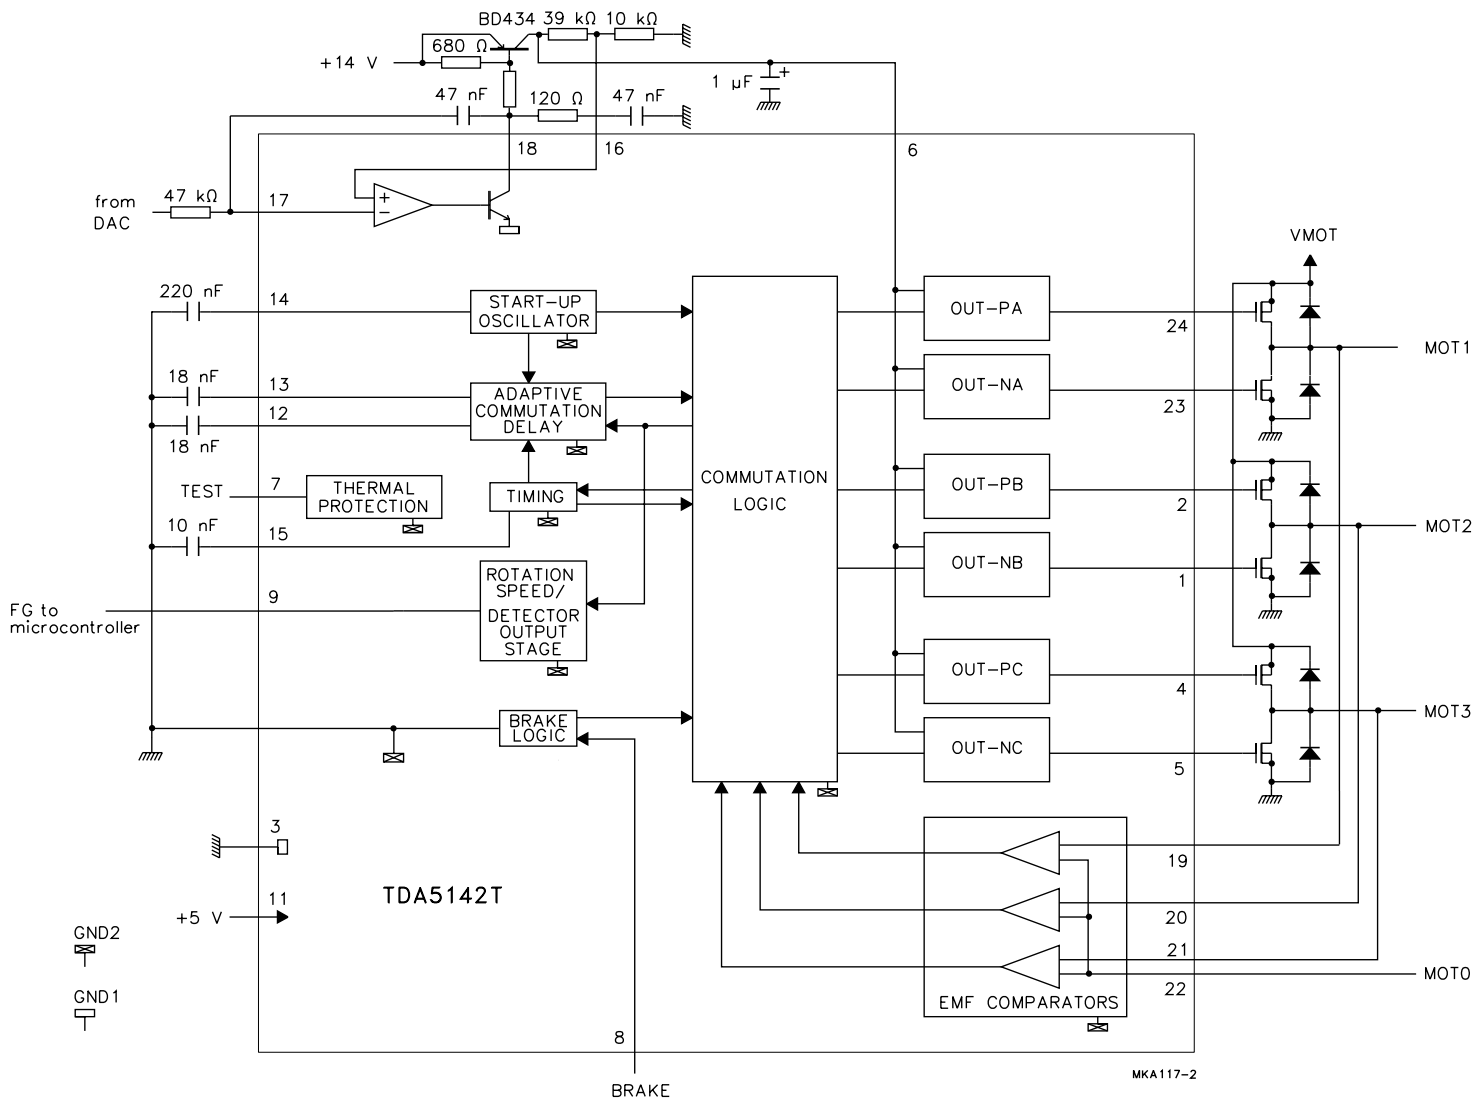

Fig.6 Typical application of the TDA5142T as a scanner driver, with use of OTA.
**Introduction (see Fig.6)**
For the analog control an external transistor is required. The OTA can supply the base current for this transistor and act as a control amplifier (see Fig.6).